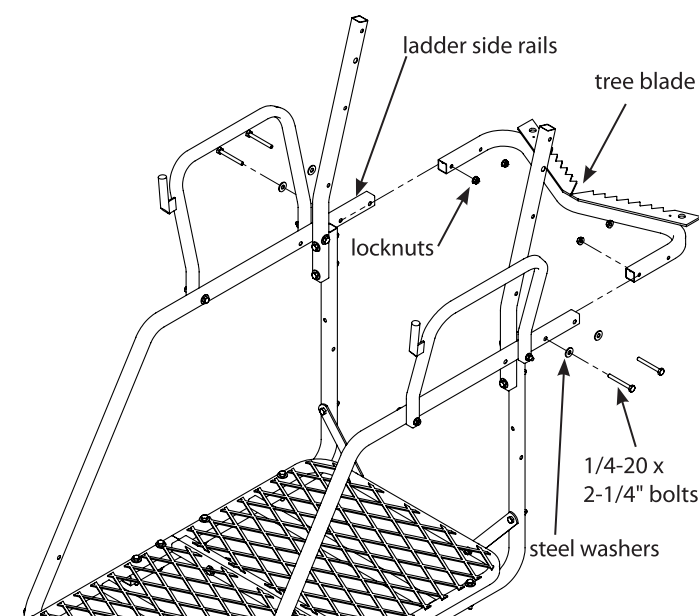

Figure 4
6. Attach the tree blade (410056) to the ladder side rails using (4) provided 1/4-20 x 2-1/4" bolts, locknuts and steel washers. **SEE FIGURE 4.**